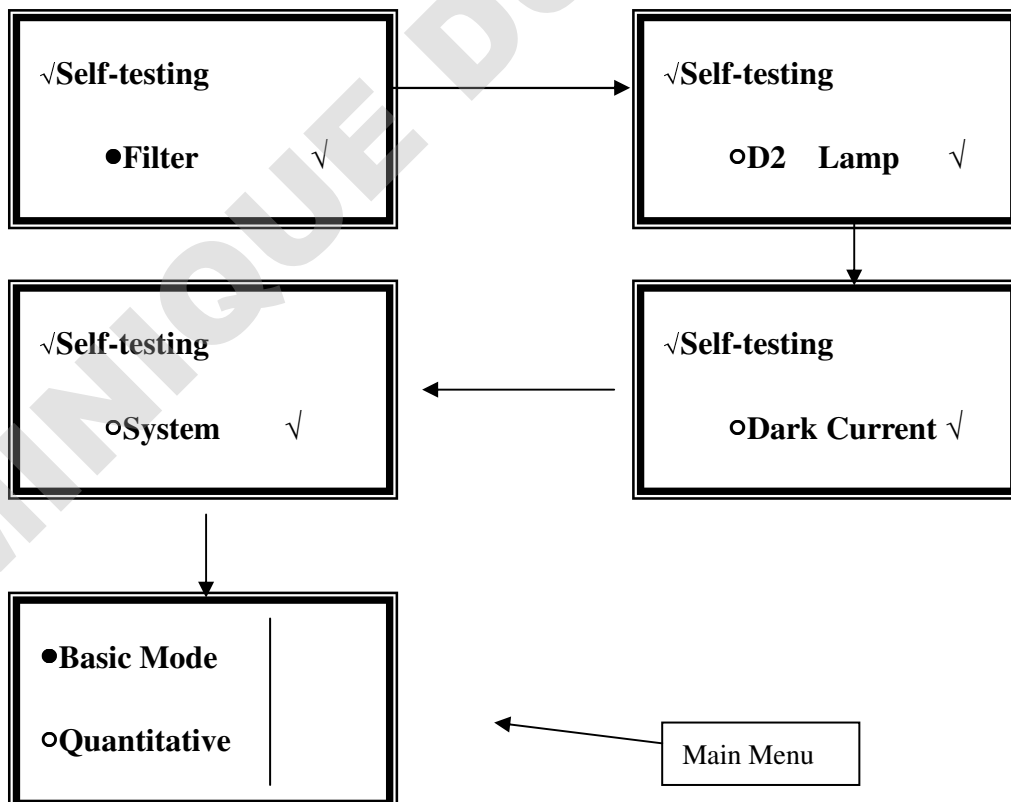
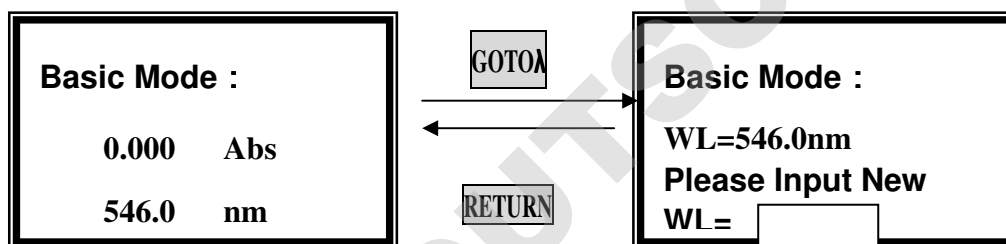
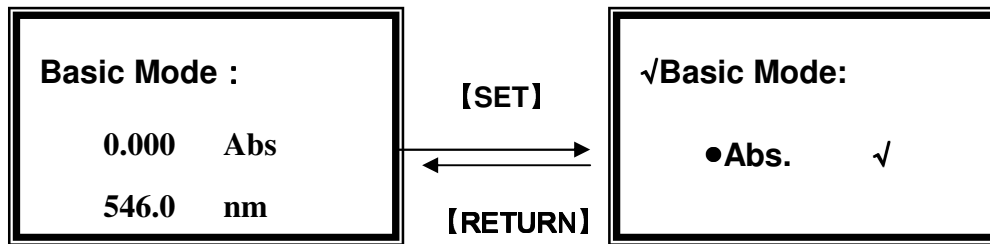

Fig 3
Fig 4
Fig.7
1. The instrument will position filter first, then initialize lamp position and AD converter, then D2 / W lamps warm up, then Wavelength reset and get dark current, After initializing printer, checking battery and setting up system, the screen display the main menu. And the self-testing process display as fig 3.
- ✧ Press **[GOTOλ]** (Fig 4).
Push the blank cuvette into the light path. In main menu (the last one of Fig. 3), move the cursor on “Basic mode”, then press **【ENTER】** to go into basic mode test. After automatically blanking, it will display as the left one of Fig. 4 and wait for the operator.
【RETURN】 to exit to the left of Fig.4, blank at the same time. (Fig. 7)